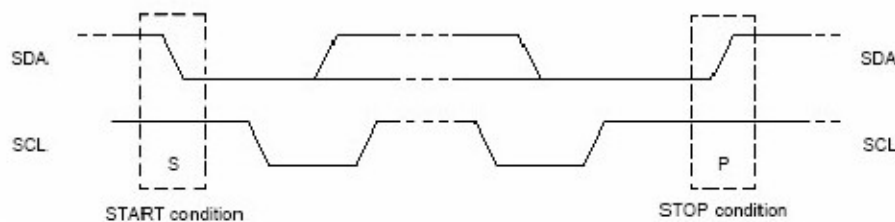

Figure 8. Definition of Start and Stop Condition
Both data and clock lines remain HIGH when the bus is not busy. A HIGH-to-LOW transition of the data line, while the clock is HIGH is defined as the START condition (S). A LOW-to-HIGH transition of the data line while the clock is HIGH is defined as the STOP condition (P), see Figure 8.